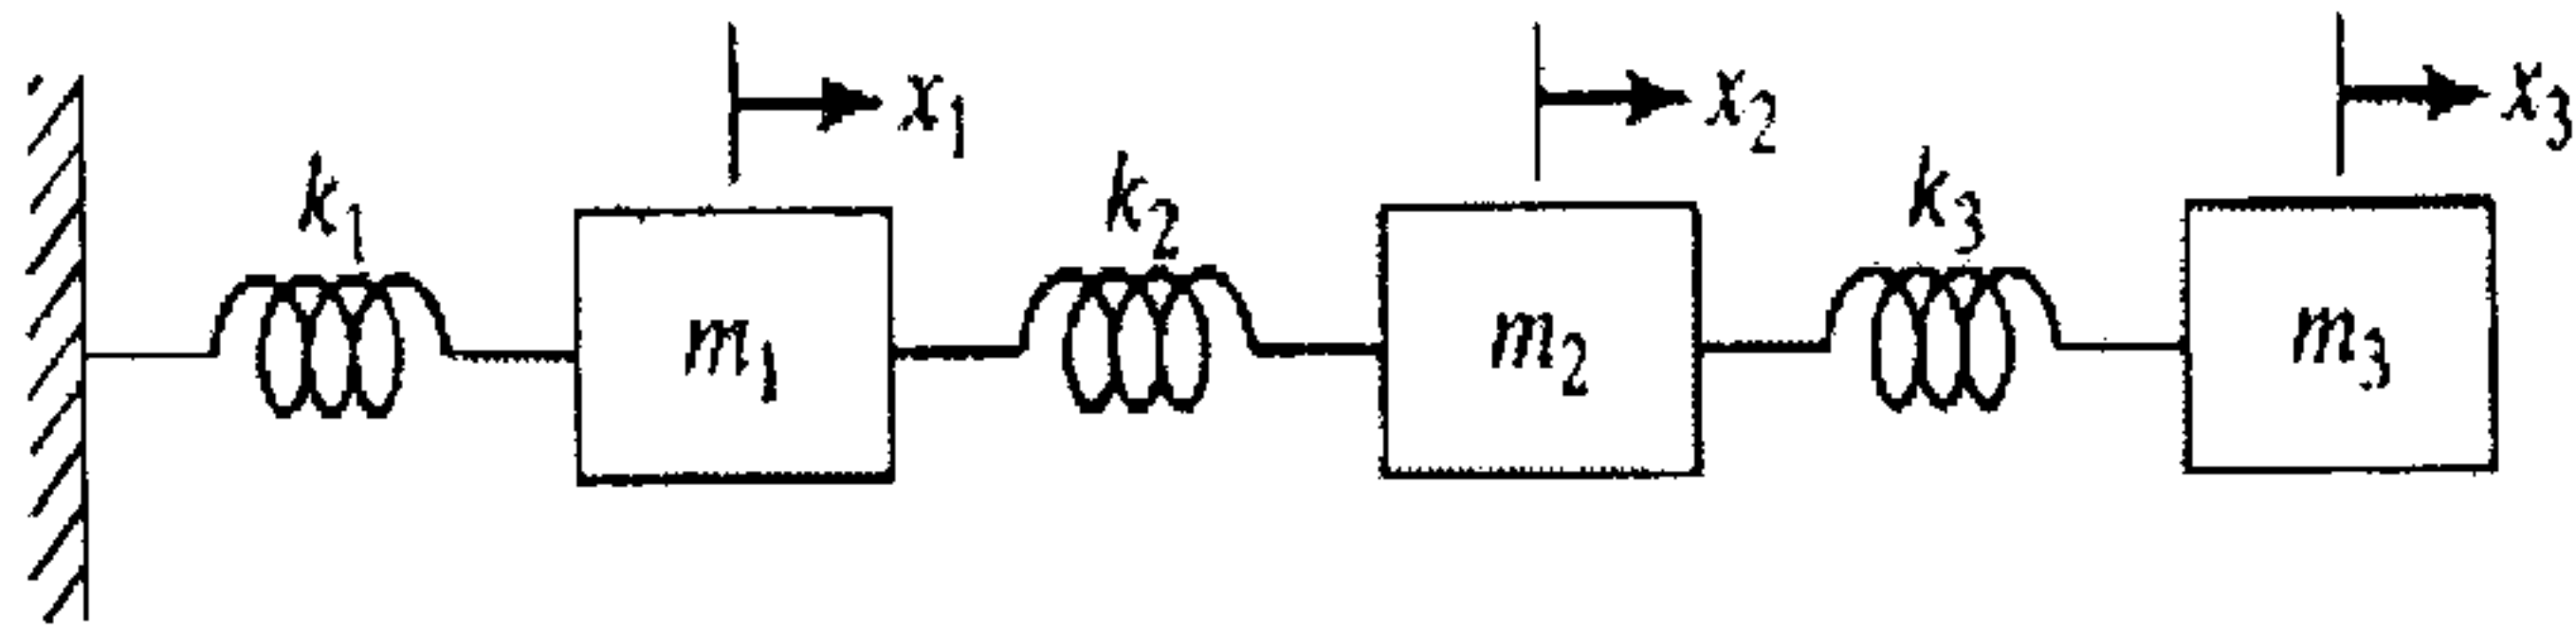

Fig 6
- 6) Using the matrix iteration method, find the natural frequencies and mode shapes of the system shown in figure 6 with $k_1=k$, $k_2=2k$, $k_3=3k$ and $m_1=m_2=m_3=m$. 14M